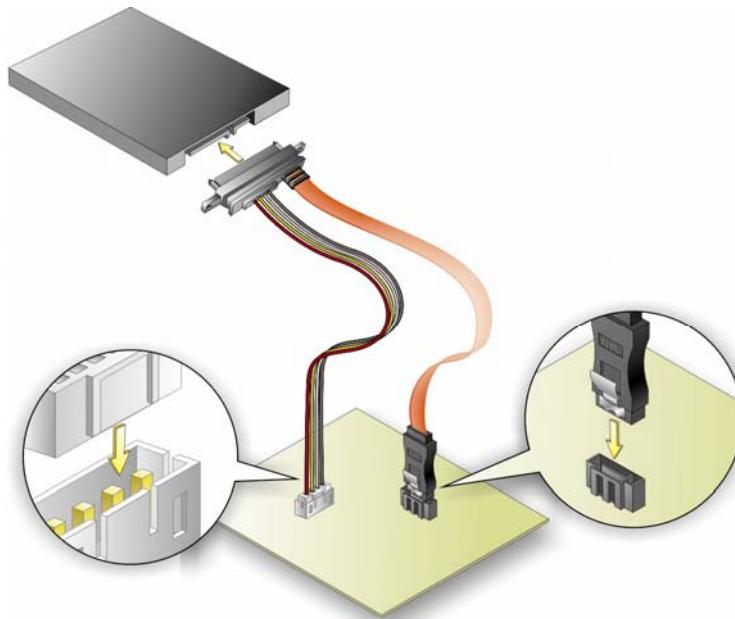

Figure 4-9: SATA Drive Cable Connection
Step 2: **Insert the cable connector.** Insert the cable connector into the on-board SATA drive connector and the SATA power connector. See Figure 4-9.
Step 3: **Connect the cable to the SATA disk.** Connect the connector on the other end of the cable to the connector at the back of the SATA drive. See Figure 4-9.